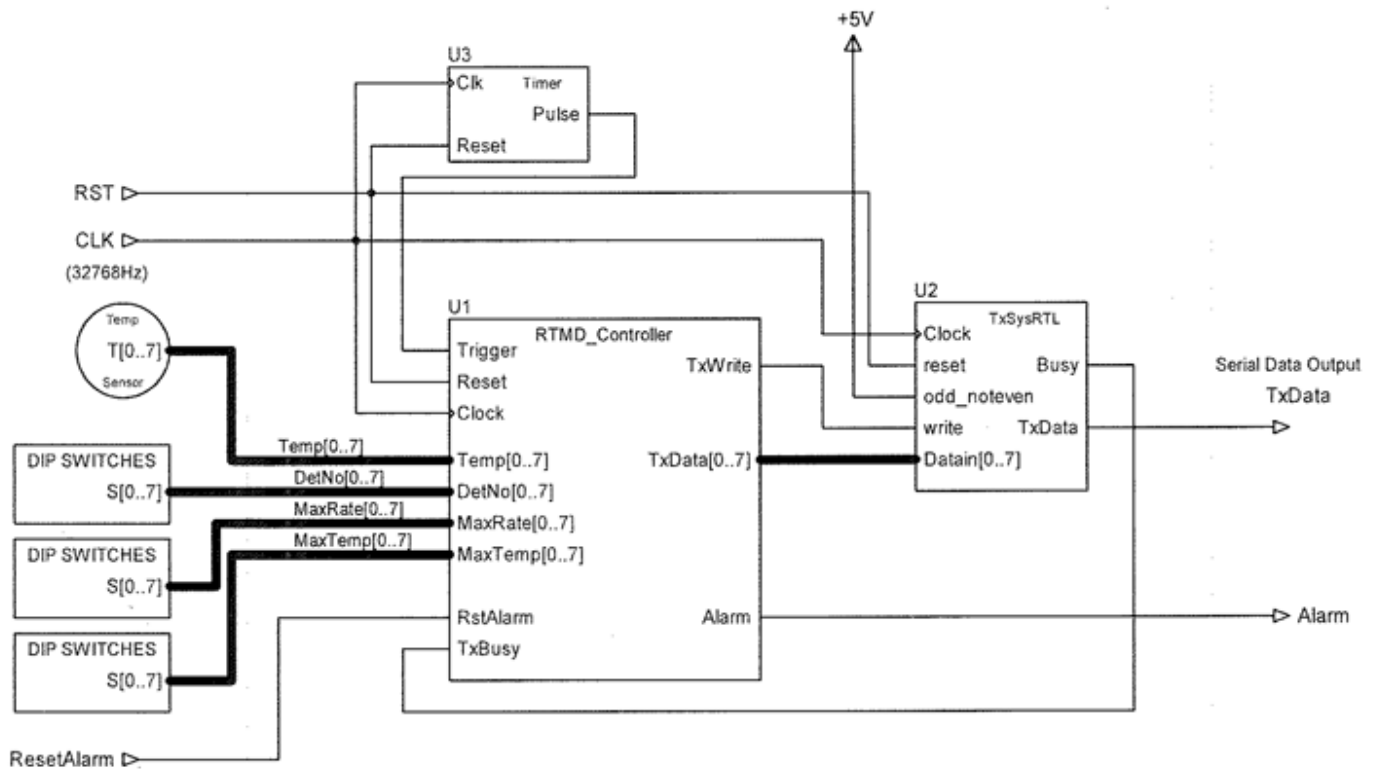

Figure 1 : FPGA Based Remote temperature monitoring device
Figure 1 shows the block diagram of the RTMD. The design comprises a number of functional blocks, initially student must design following modules for serial transmission and timer (you may follow the lecture notes).
2. Using HDL language, crate a design module for the complete RTMD system described in figure 1.